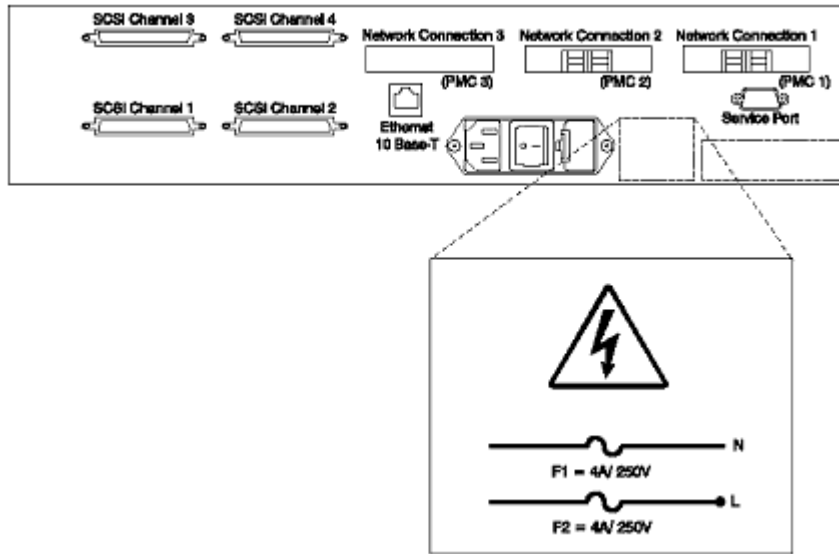

Figure 1-1: Safety Label
1. Verify that the safety label shown in Figure 1-1 is installed on the ADIC Gateway